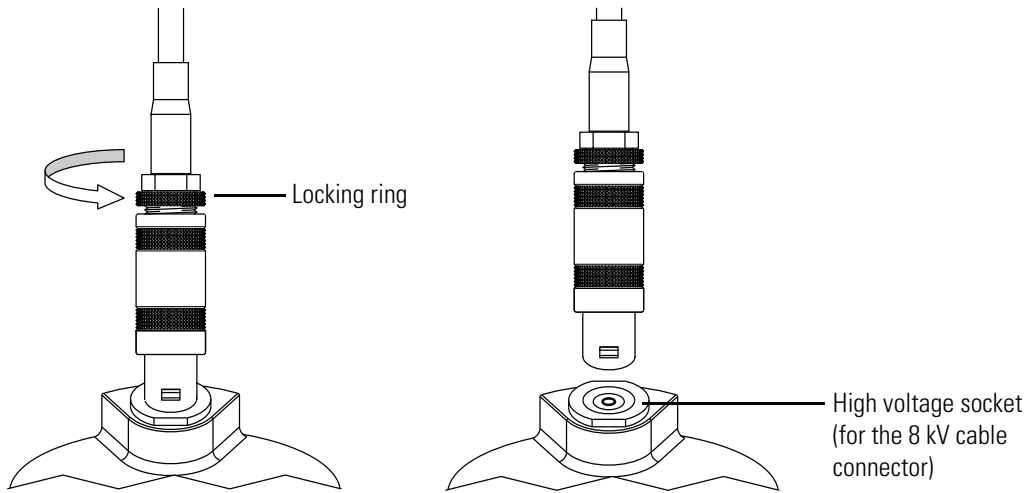

Figure 8-16. 8 kV cable connector (enlarged view)
3. Disconnect the 8 kV cable from the probe high-voltage receptacle (Figure 8-16):
9. Connect the 8 kV cable connector to the 8 kV cable connector socket on the probe. Tighten the locking ring (see Figure 8-16 on page 8-34) on the 8 kV cable connector.